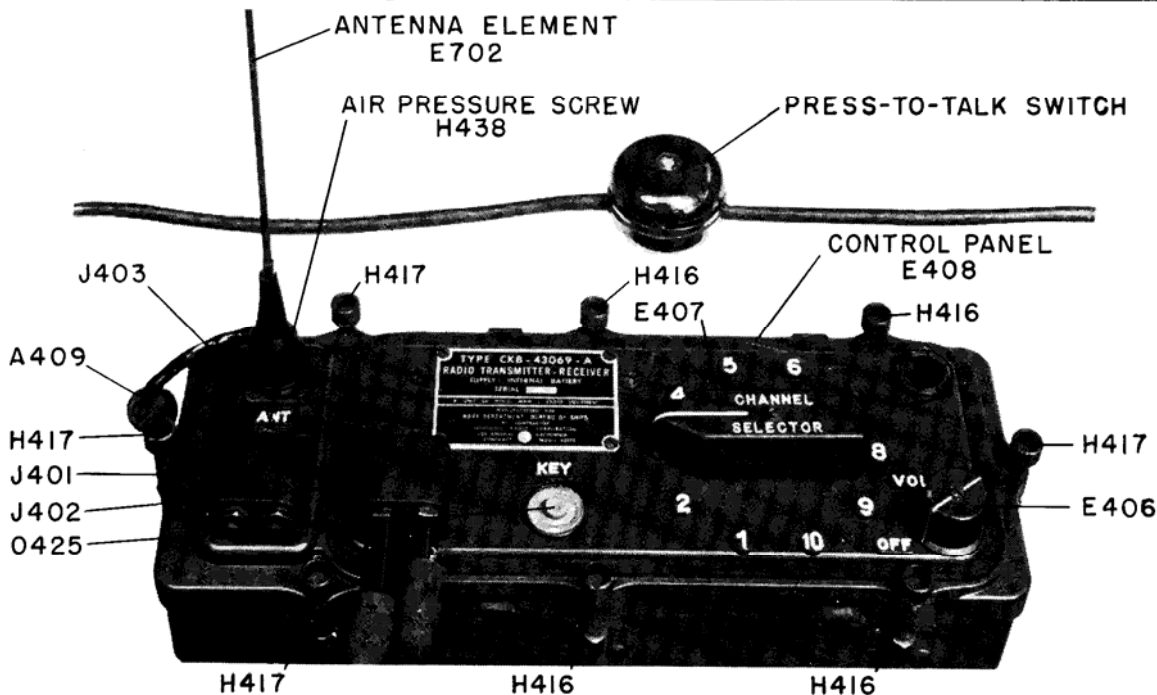

Figure 4-6. Operating Controls of MAW-1
a. OPERATING CONTROLS (See figure 4-6.) — The two knobs and the key on the control panel, the press-to-talk switch on the Headset-Microphone extension cable, and the adjustable rods on the antenna constitute the operating controls of the MAW-1 equipment. The function of each control is given in table 4-2.
b. OPERATING PROCEDURE.—After the operating units have been connected for portable or fixed operation according to subsection 2 of this section, and the operator is familiar with the operating controls as discussed in paragraph 3.a. above, the following steps should be followed for operation. Refer to figure 4-6.
(2) RECEIVER-TRANSMITTER CHASSIS REMOVAL AND CONNECTION.—When it is necessary to remove the Receiver-Transmitter chassis from its carrying case, unscrew the eight captive screws (H416 and H417) at the edges of the control panel and lift the assembly out of its case. A vacuum may exist in the carrying case which would prevent removing the chassis. If so, remove the air pressure screw H438 (see figure 4-6), and allow the air pressure screw H438 (see figure 4-6), and allow the air pressure to equalize. Be careful not to lose the screw or its rubber-washer gasket (H429). Remove both chassis covers by swinging the spring fastening straps straight out and lifting the cover off. Set the equipment as illustrated in figure 6-3, and connect the battery extension cable W803 as shown. This will supply battery current to operate the unit out of the case.
Install both cover plates on the chassis and secure them with the spring fastening straps. Be sure that none of the three spring straps holding the shield are protruding outside the edge. Wipe off gasket surfaces and replace chassis unit in the case, with the power supply positioned opposite the battery compartment. Carefully slide the unit in place, keeping it in line with the case. A slight resistance will be felt as the control panel nears the top of the case; this is caused by the battery pressure contact springs and is normal. Screw all eight captive screws (H416 and H417) into the brackets on the case, starting with the two end screws; repeat several times until all eight screws are tight. To insure a true seal of the gasket, remove the air pressure screw (see figure 4-6) until the captive screws are tightened. Be sure to replace the air pressure screw (H438) and its washer (H429), tightening securely.